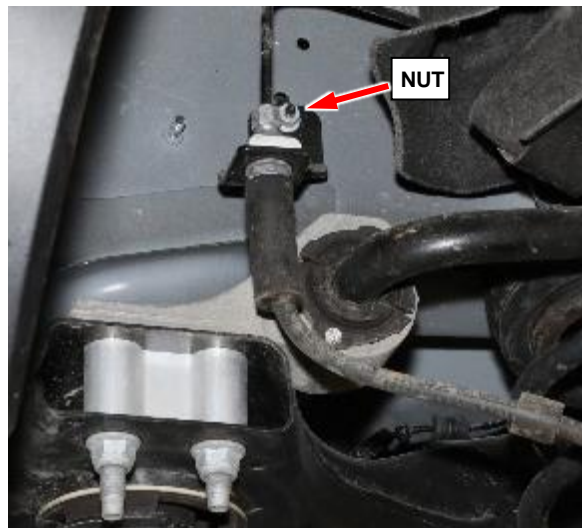

Figure 7 – Brake Pipe Bracket
- 8. Remove the nut holding the brake pipe bracket to the body (Figure 7).
25. Install the nut holding the brake pipe bracket to the body tighten to 7 N·m (62 in. lbs.) (Figure 7).